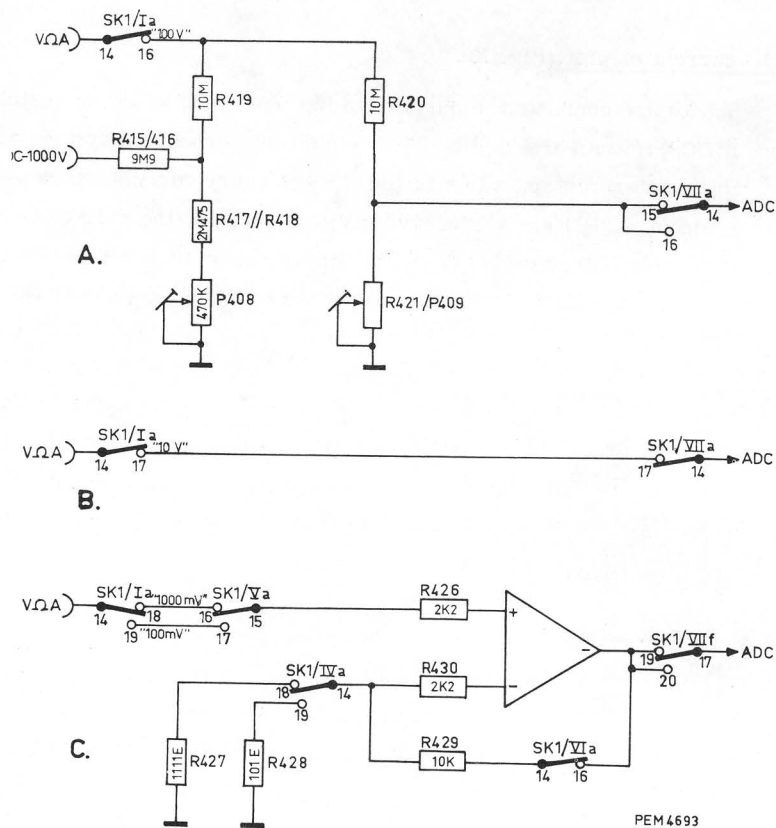

Fig. 7. DC voltage circuits
1. DC voltage circuits (Fig. 7)